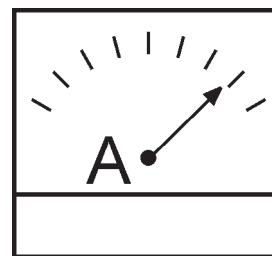

Figure 52. Ammeter (Load)
12. Observe the generator's ammeter (Figure 52) and verify it reads the anticipated amount of current with respect to the load. The ammeter will only display a current reading if the load is in use.